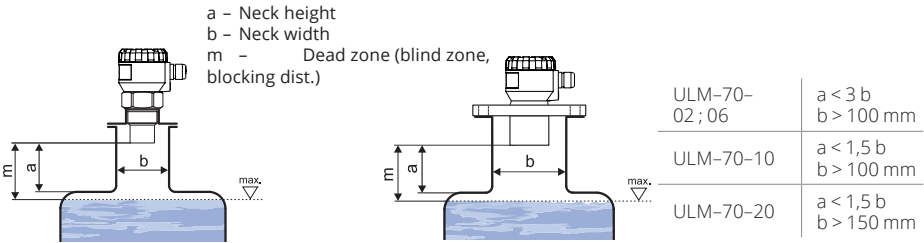

Fig. 4: Possible installation of the installation neck
- If the maximum surface level in the tank interferes with the dead zone, the level meter has to be mounted into a higher **installation neck**. In this way, the tank can be filled nearly up to the maximum volume. The inner neck surface has to be even and smooth (without edges and welded joints); the inner edge should be rounded where the ultrasonic wave leaves the pipe. The neck diameter should be as large as possible but the neck height should be as low as possible. Recommended dimensions of the input neck are given in Fig. 4.